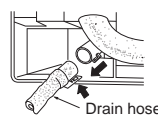

Fig. 2
- Pull out the drain hose at the rear left of the indoor unit. (Fig. 2)